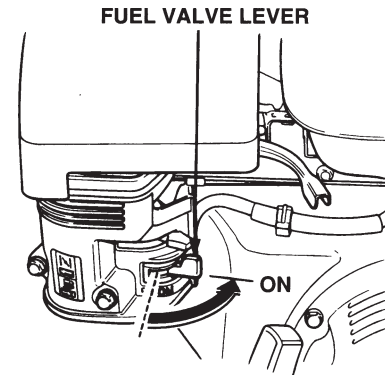

Figure 4. Fuel Shut-OFF Lever
1. Move the fuel shut-off lever (Figure 4) to the **ON** position.